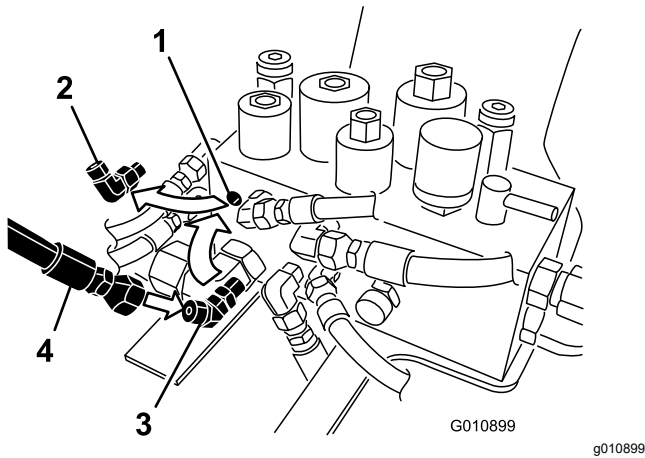

Figure 3
3. Disconnect the hose from the 90° fitting at the L1B port on the hydraulic manifold (Figure 3). Note the angle at which fitting is directed.
4. Remove the 90° fitting from the hydraulic manifold and replace it with the 45° fitting (Figure 3). Position the fitting at the approximate angle that the previous fitting was installed.
5. Connect the hose to the 45° fitting (Figure 3).